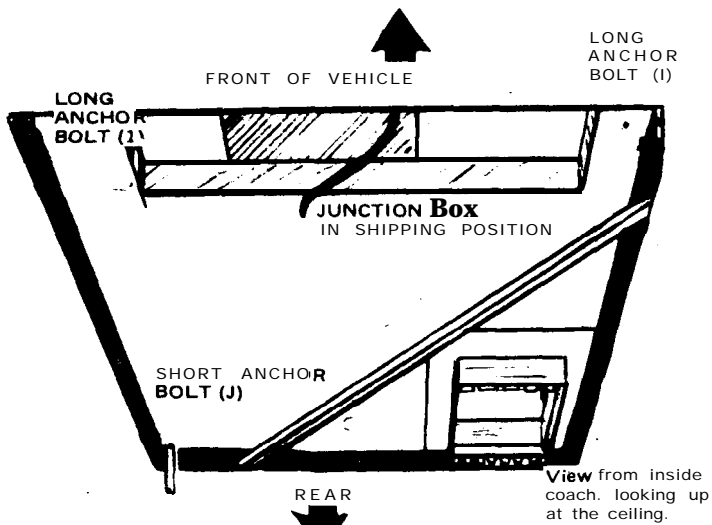

FIGURE 6
6. install the three straight anchor bolts (I) and (J) as shown. The two long bolts (I) are installed to the front of unit and the short one (J) to the rear. See Figure 6.